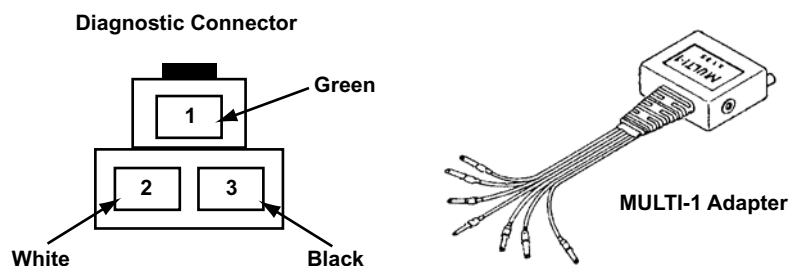
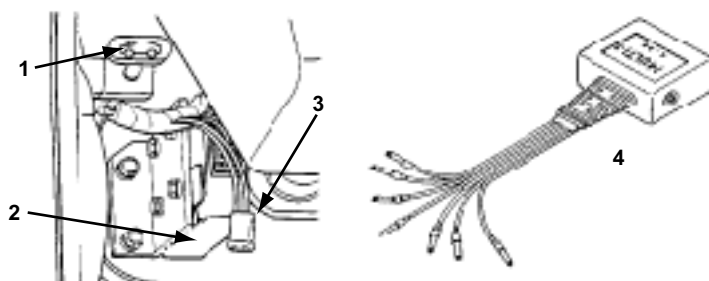

Figure 10-7 1984-95 Pickup 1988-95 Amigo, and 1991-95 Rodeo connector and adapter
Figure 10-8 1988-91 Trooper with automatic transmission connector location
- Connect the MULTI-1 adapter with the white terminal converters (Figure 10-7 and Figure 10-8).